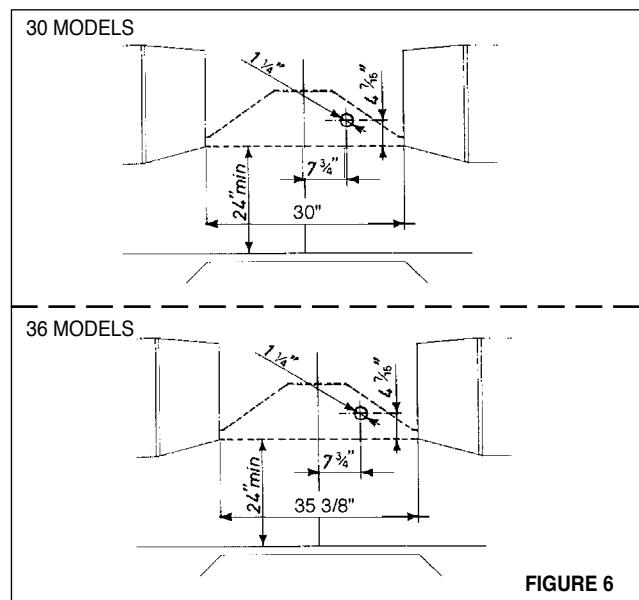

FIGURE 6
6. Determine the proper location for the Power Supply Cable (**FIGURE 6**). Use a 1 1/4" Drill Bit to make this hole. Run the Power Supply Cable. Use caulking to seal around the hole. DO NOT turn on the power until installation is complete.